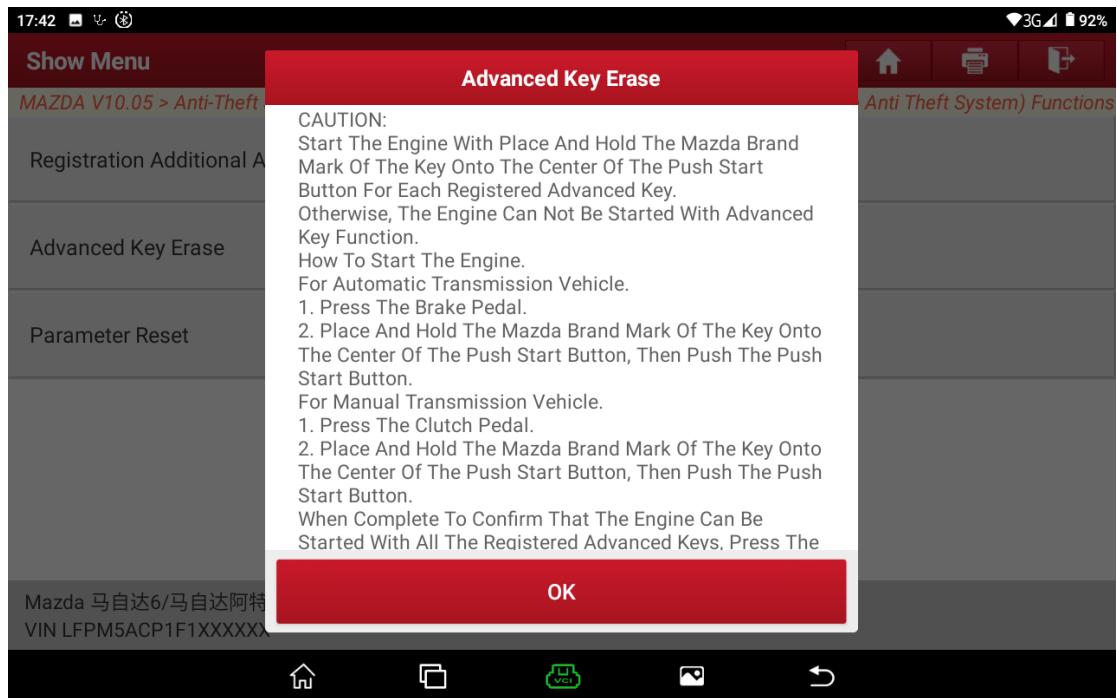

Figure 25
23. The operation prompt is displayed. See Figure 25.